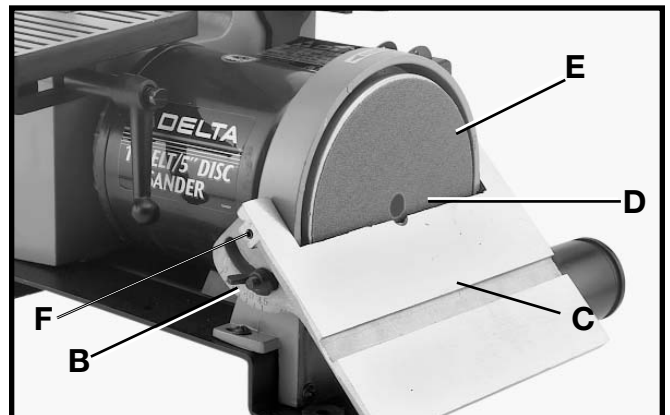

Fig. 21
The disc table (C) can be tilted down 45 degrees (Fig. 21), by loosening the two wing nuts (one of which is shown at (B) Fig. 21). Tilt the table to the desired angle and tighten the two wing nuts.
**NOTE:** The power take-off location is shown at (D) Fig. 21, and can be used with the table in the tilted down position. The accessory flexible shaft can be attached at this location (leaving the abrasive on the sanding disc) by cutting a small hole in the center of the abrasive to provide an entrance for the flexible shaft.
The disc table can be adjusted in or out to the disc by loosening the two set screws (F) Fig. 21 (one of which is shown), and adjusting table and retightening the two set screws (F).
**⚠️ WARNING:** To avoid trapping the workpiece or your fingers between the table (C) and the sanding disc (D), adjust the table so that it is a maximum 1/16" from disc, between the work table and the disc (Fig. 21).